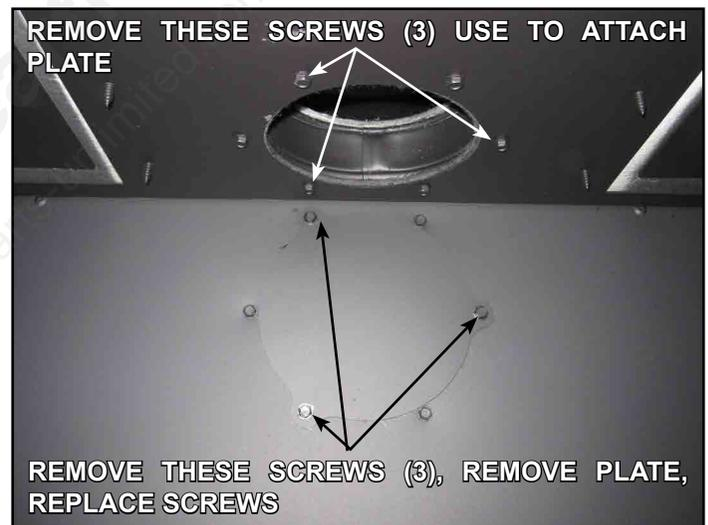

Figure 6.14
17. On inside of firebox, remove plate and gasket on rear of firebox by removing three screws as shown in Figure 6.14. Discard gasket. Replace screws on rear of firebox. Remove three screws as shown in Figure 6.14. Attach plate and new gasket, included in kit, with three screws.